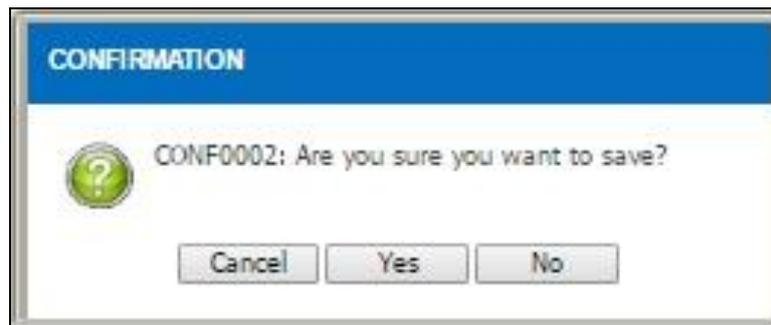

Figure 4.1.6-8 Alert Message
- Alert message will be displayed after the transaction is saved as per Figure 4.1.6-8
- Click on the button to confirm the saved transaction and the item information will be displayed as Figure 4.1.6-9